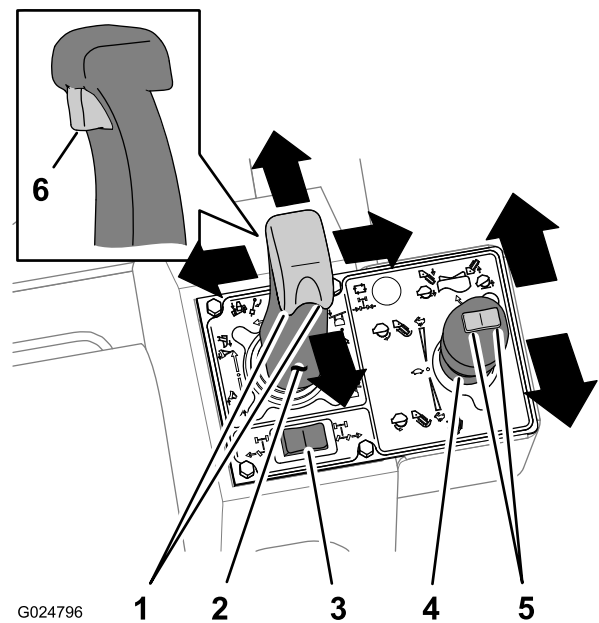

Figure 15
- Push the joystick forward to lower the backfill blade or vibratory plow or pull the joystick rearward to raise the backfill blade or vibratory plow (Figure 15).
- Move the joystick to the left to tilt the backfill blade to the left, or move the joystick to the right to tilt the backfill blade to the right (Figure 15).
- Twist the thumb control left to swing the backfill blade left, or twist the thumb control right to swing the backfill blade right (Figure 15).
- Twist the thumb control left to steer the vibratory plow left, or twist the thumb control right to steer the vibratory plow right (Figure 15).
- Pull the trigger on the joystick to float the backfill blade up and down (Figure 15).
- Move the joystick rearward to start the vibration of the plow blade (Figure 15).
- Move the joystick further rearward to increase the vibration (Figure 15).
- Move the joystick toward the Neutral position to decrease and stop the vibration (Figure 15).
- Move the joystick forward to start the digging chain in the forward direction (Figure 15).
- Move the joystick further forward to increase the chain speed (Figure 15).
- Move the joystick to the Neutral position to stop the trencher chain (Figure 15).
- Press the switch on the left to lower the attachment boom (Figure 15).
- Press the switch on the right to raise the attachment boom (Figure 15).